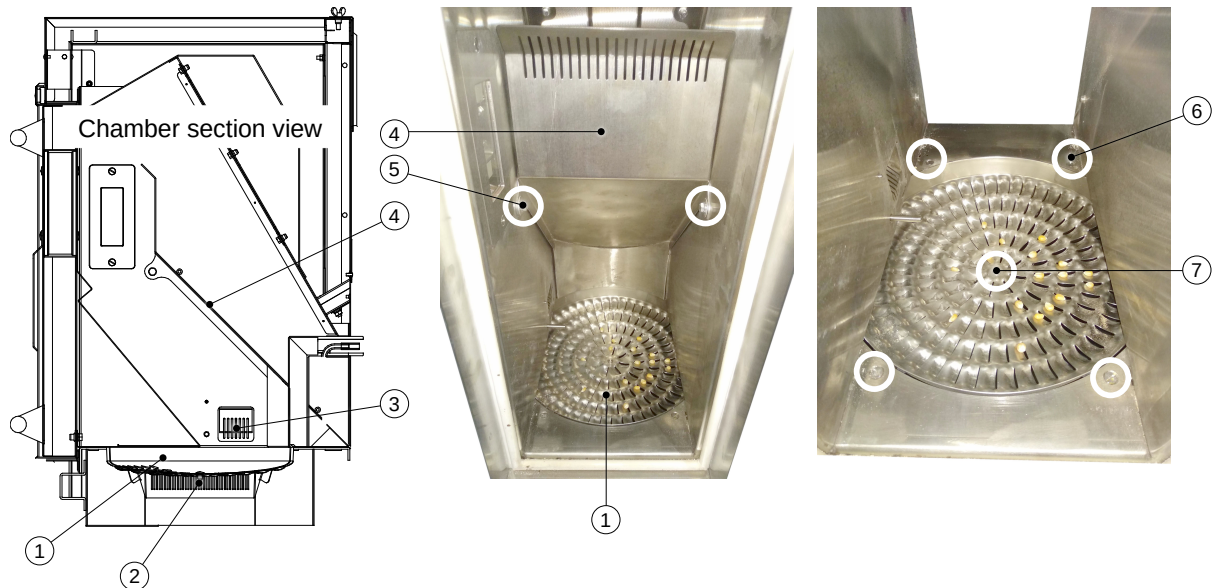

Figure 7: Chamber deep cleaning
2. Unscrew two bolts (5) (here and below see Fig.7).
3. Take the baffle (4) out from the chamber.
4. Unscrew four bolts (6) that holds perforated bowl (1) in place.
5. Take the perforated bowl (1) out from the chamber.
6. Thoroughly clean griddle (2) and end of the corn supply tube (3).
7. Assemble in back order. HINT: it is recommended to hold the perforated bowl by the central M5 screw (7) while putting it back to place.